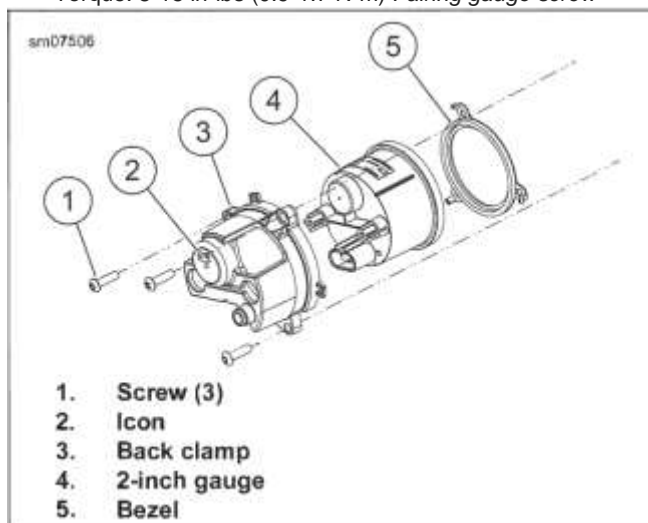

Figure 8-37. Fairing Gauge
2. See Figure 8-37. Remove gauge.
- a. Remove screws (1).
- c. Remove back clamp (3).
- d. Remove bezel (5).
1. See Figure 8-37. Assemble gauge (4).